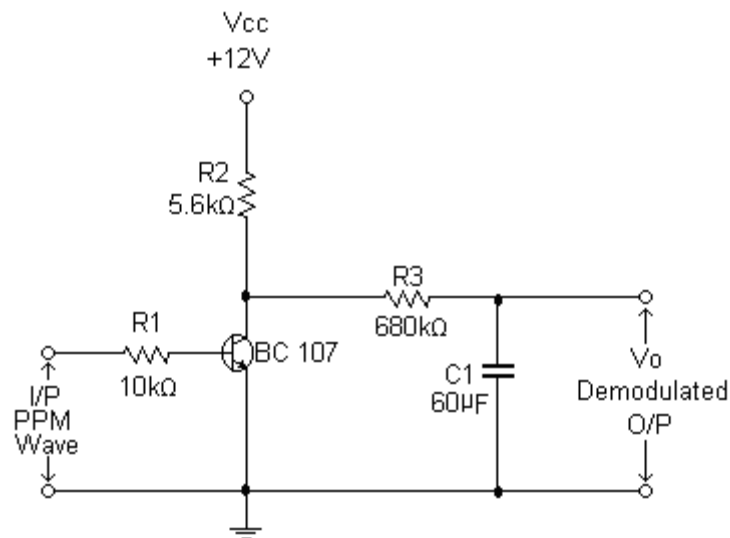

Fig: 2 Demodulation Circuit
5. During the demodulation process, give the PPM signal as input to the demodulated circuit as shown in Fig.2.